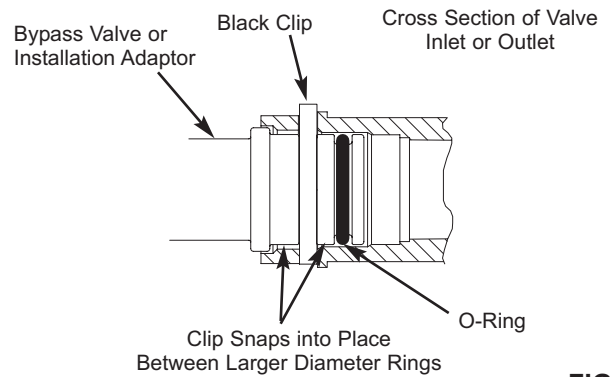

FIG. 11
7. Push the bypass valve into the softener valve as far as it will go. Snap the two large holding clips into place, from the top down as shown. See Fig. 11.
CAUTION: Be sure the clips snap firmly into place so the bypass valve will not pull out. See Fig. 11.
8. Put a light coating of silicone grease on the o-ring seals and slide into the threaded adaptors. Push the adaptors into the valve inlet and outlet ports, or bypass valve ports, as far as they will go. Both adaptors are the same and fit either port. Snap the two large holding clips into place, as shown. See Fig. 11.
CAUTION: Be sure the clips snap firmly into place so the tubes will not pull out. See Fig. 11.